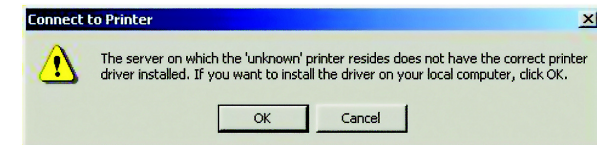

Figure 7-5: Connect to Printer
4. If the connection can be established, and the printer on that port is online, the dialog box shown in Figure 7-5 will be displayed. This screen notifies you that the printer driver is not installed. Click the OK button.